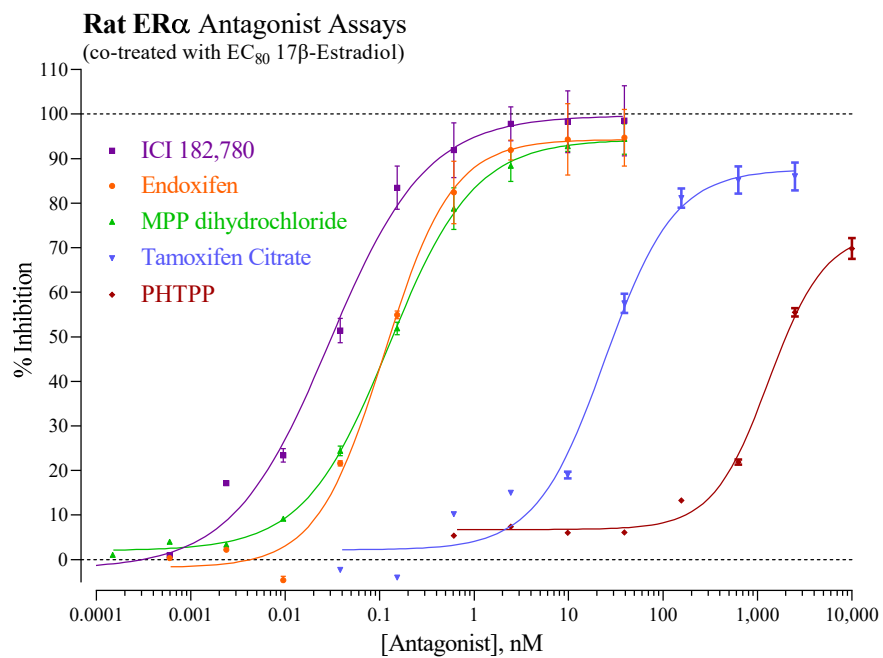

Figure 3. Antagonist dose-response analyses of the Rat ER α assay.
- *Optional:* Reference Antagonist (refer to Fig 3.)